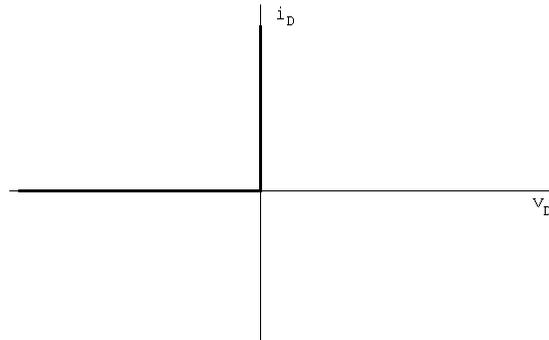

Figure A-2.
*I-V characteristic curve:* In order to understand how a diode functions, it is useful to look at a plot of the voltage across the diode vs. the current through the diode. We call this type of curve and i-v characteristic curve. If we were to create an i-v curve of a resistor, where the current is directly proportional to the voltage ( $V=IR$ ), we would see a straight line with a constant slope or  $R^{-1}$ . When we plot the characteristic curve of an ideal diode (that switches on when the voltage across it goes above zero), we see zero current when  $v_D$  is negative and infinite current as soon as  $v_D$  tries to go positive. This is shown in Figure A-2. Note that, when an ideal diode turns on, it is a short circuit and, therefore, the voltage across the ideal diode when it is on is always zero.